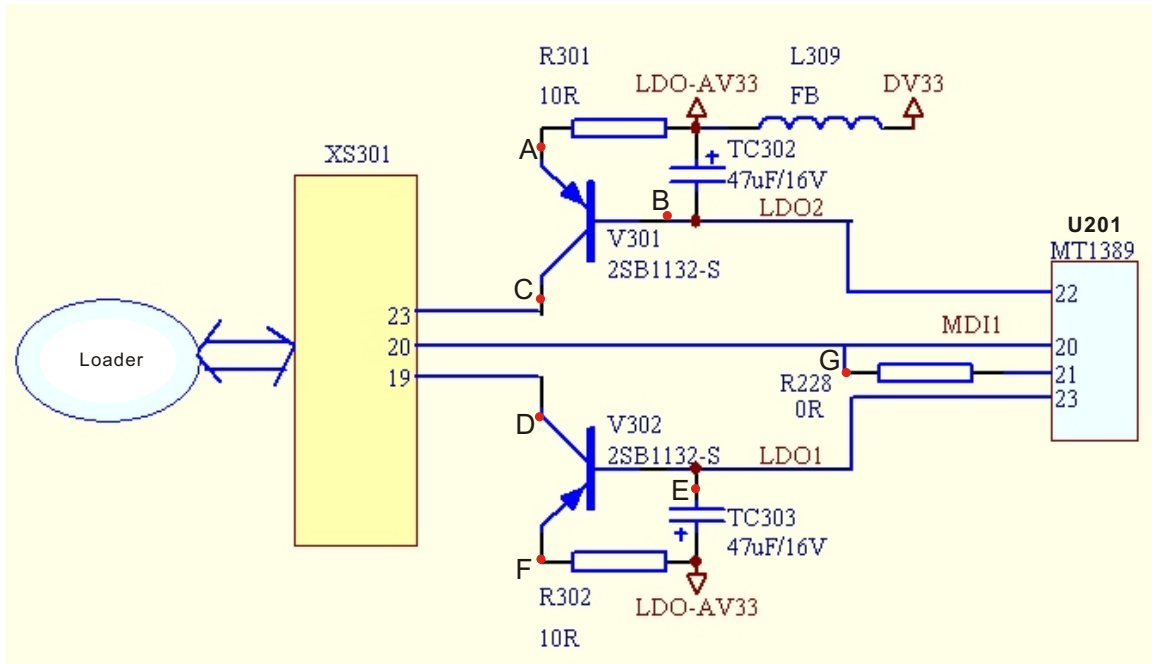

Figure 3.2.3.1 Laserpower control circuit diagram
1. The circuit schematic diagram is shown as the following figure 3.2.3.1: